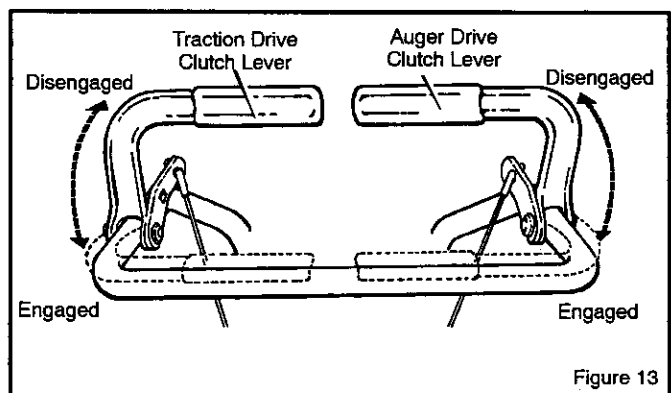

Figure 13
1. Start the engine as described in section "To Start Engine" (see Figure 13).
5. Engage auger drive clutch lever (right hand - Figure 13).
6. Engage traction drive clutch lever (left hand - Figure 13). As the snow blower starts to move, maintain a firm hold on the handles and guide the snow blower along the cutting path. Do not attempt to push the snow blower.
7. To stop forward motion, release traction drive clutch lever (left hand - Figure 13).
8. To stop auger, release auger drive clutch lever (right hand - Figure 13).